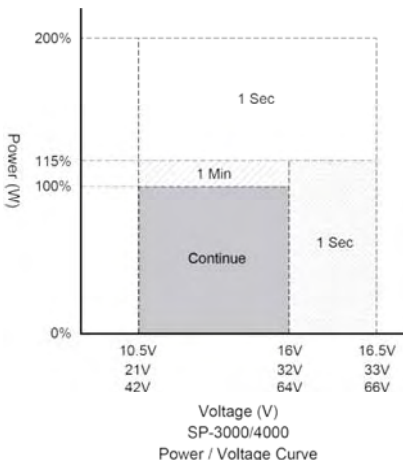
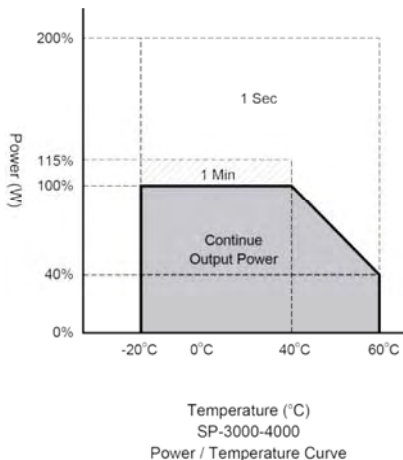

Figure 3. SP-3000/4000
Figure 4. SP-3000/4000
- ① Voltage range : Please refer to Figure 3
- ② Normal load Condition : Vin =12.5V/25V/50V, Vo=200/220/230/240 VAC 80% Full load (PF=1.0)
- ③ Operating temperature : Please refer to Figure 4
- ④ **Warning** : This is a class A product. In a domestic environment this product may cause radio interference in which case the user may be required to take adequate measures.
- ② Normal load Condition : Vin =12.5V/25V/50V, Vo=100/110/115/120 VAC 80% Full load (PF=1.0)
- ② Normal load Condition : Vin =25V/50V, Vo=200/220/230/240 VAC 80% Full load (PF=1.0)